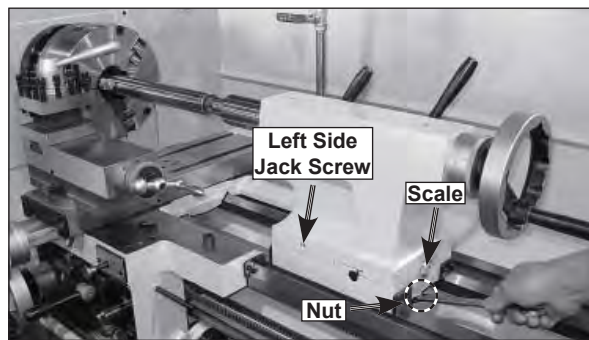
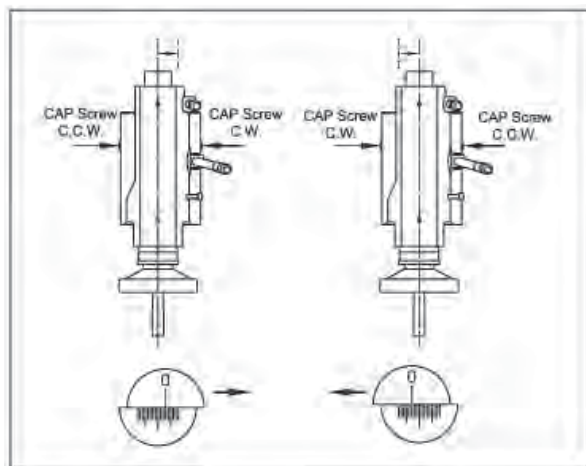

Figure 26. Tailstock offset adjustments.
Figure 27. Jack screw adjustment verses tailstock movement.
2. Loosen two nuts of bottom, adjust the left and right jack screws until the scale (Figure 26) indicates the offset you want. See Figure 27 for adjustment direction.